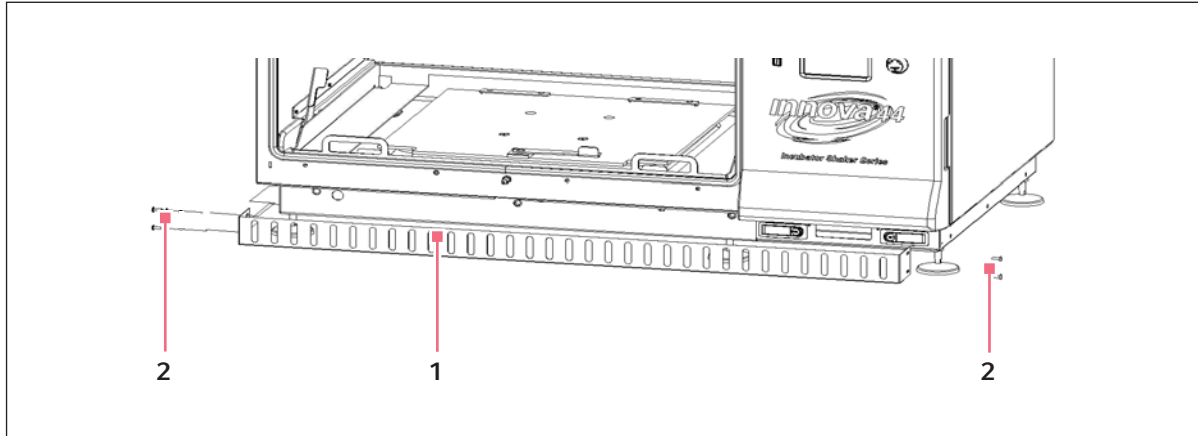

Fig. 6-1: Install the Front Grille
3. Hold the front grille in place (see Fig. 6-1 on p. 22) and reinstall the thumbscrews.